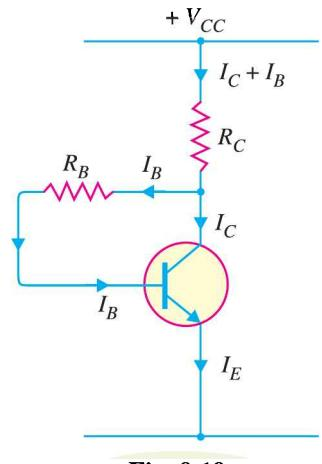

Fig. 9.19
In this method, one end of  $R_B$  is connected to the base and the other end to the collector as shown in Fig. 9.19. Here, the required zero signal base current is determined *not* by  $V_{CC}$  but by the collector-base voltage  $V_{CB}$ . It is clear that  $V_{CB}$  forward biases the base-emitter junction and hence base current  $I_B$  flows through  $R_B$ . This causes the zero signal collector current to flow in the circuit.
**Circuit analysis.** The required value of  $R_B$  needed to give the zero signal current  $I_C$  can be determined as follows. Referring to Fig. 9.19,
**Note.** It can be easily proved (See *\*\*example 9.17*) that Q-point values ( $I_C$  and  $V_{CE}$ ) for the circuit shown in Fig. 9.19 are given by ;
\*\* Put  $R_E = 0$  for the expression of  $I_C$  in example 9.17. It is because in the present circuit (Fig. 9.19), there is no  $R_E$ .